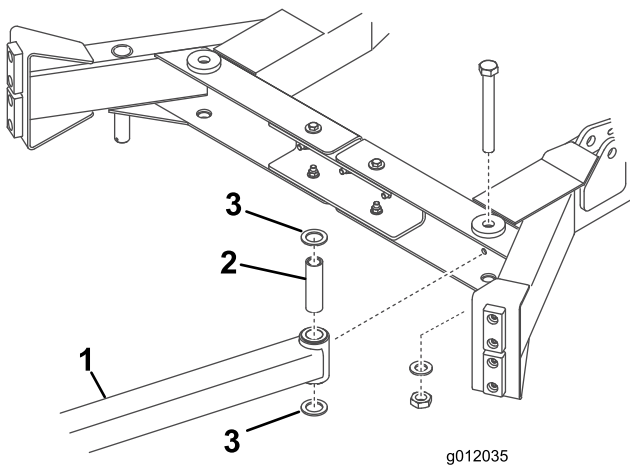

Figure 11
1. Secure left broom arm to left lift arm with a 3/4 x 6-1/2 inch screw, spacer, (2) thrust washers, .813 x 1.500 flatwasher and 3/4 jam nut (Figure 11). Thrust washers to be positioned between broom arm bushings and inside of lift arm. Torque the jam nut to 145–190 ft–lb.